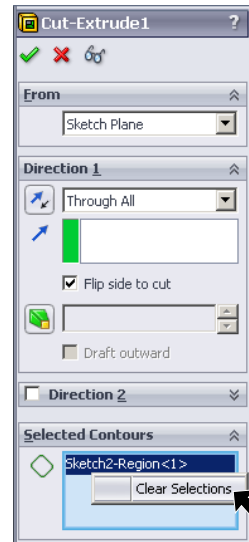

Fig. 33
**right click** in the Select Contours box and click **Clear Selections** from menu, **Fig. 33**